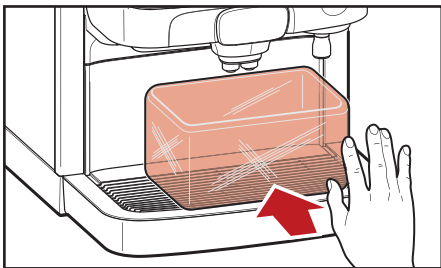

Fig. 5.5 - Place container
7. Place a container under the drink and hot water outlets (fig. 5.5)